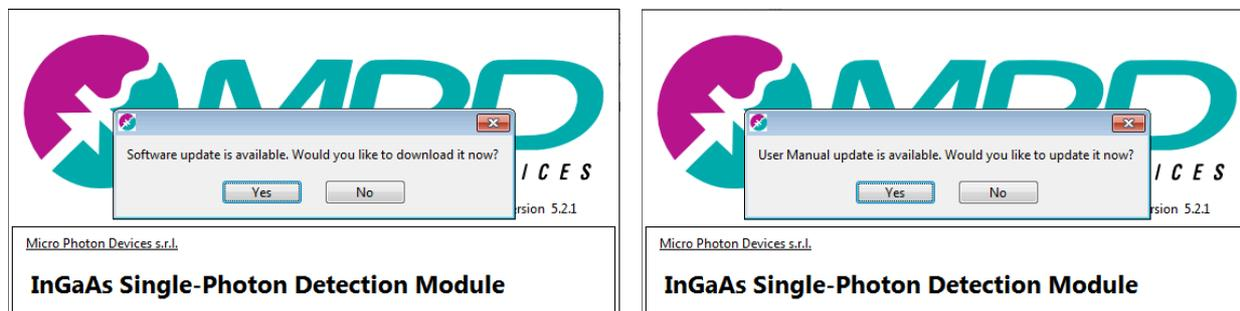
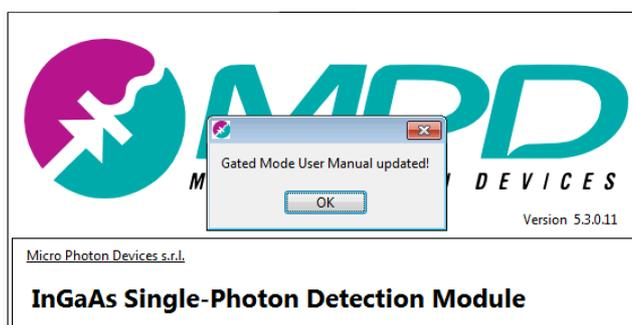

Figure 2.6. Software Update (left) and User Manual update (right) dialogue boxes.
Figure 2.7. Dialogue box informing that the Gated-Mode User-Manual has been downloaded.
- In case a new user manual is present, the dialogue box shown in Figure 2.6 on the right will appear and if the user presses the ‘Yes’ button the new user manual is downloaded and copied inside the program. A dialogue box signaling the successful install of the new manual will also be shown as illustrated in Figure 2.7.
- In case a new software is available, the dialogue box shown in Figure 2.6 on the left will appear. If the ‘Yes’ button is pressed, the default web browser will be opened directly on the download page of the MPD website.